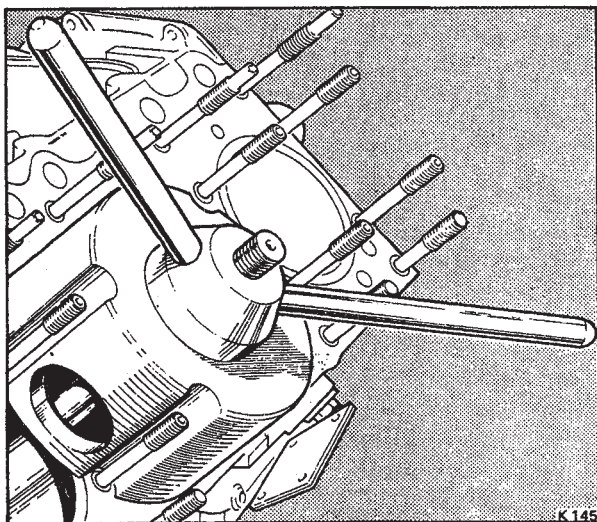

Fig. E4 Cylinder liner extraction
2. Using the cylinder liner extraction tool (RH 7095) as shown in Figure E4, withdraw the liner from the top face of the crankcase.